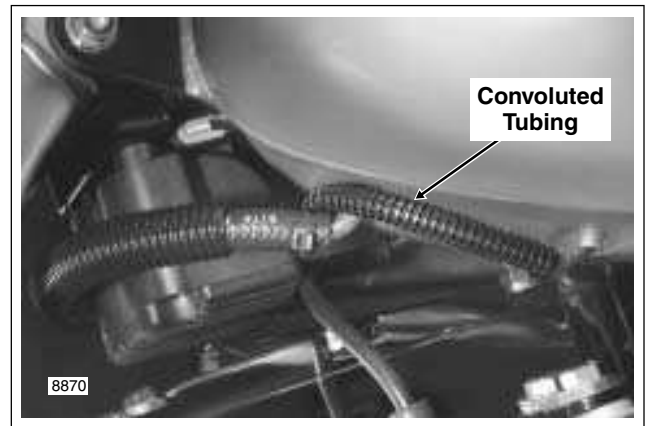

Figure 4-20. Fuel Gauge (FLHR/S)
13. Connect fuel gauge to main harness. Route pin housing and convoluted tubing forward and then inboard between front of crossover hose fitting and bottom of fuel tank. Mate pin and socket halves of fuel gauge connector [117], 4-place Multilock. Feed connector into tunnel of fuel tank. See Figure 4-20.
10. Connect fuel gauge to main harness. Route pin housing and convoluted tubing forward and then inboard between front of crossover hose fitting and bottom of fuel tank. Mate pin and socket halves of fuel gauge connector [117], 4-place Multilock. Feed connector into tunnel of fuel tank. See Figure 4-20.